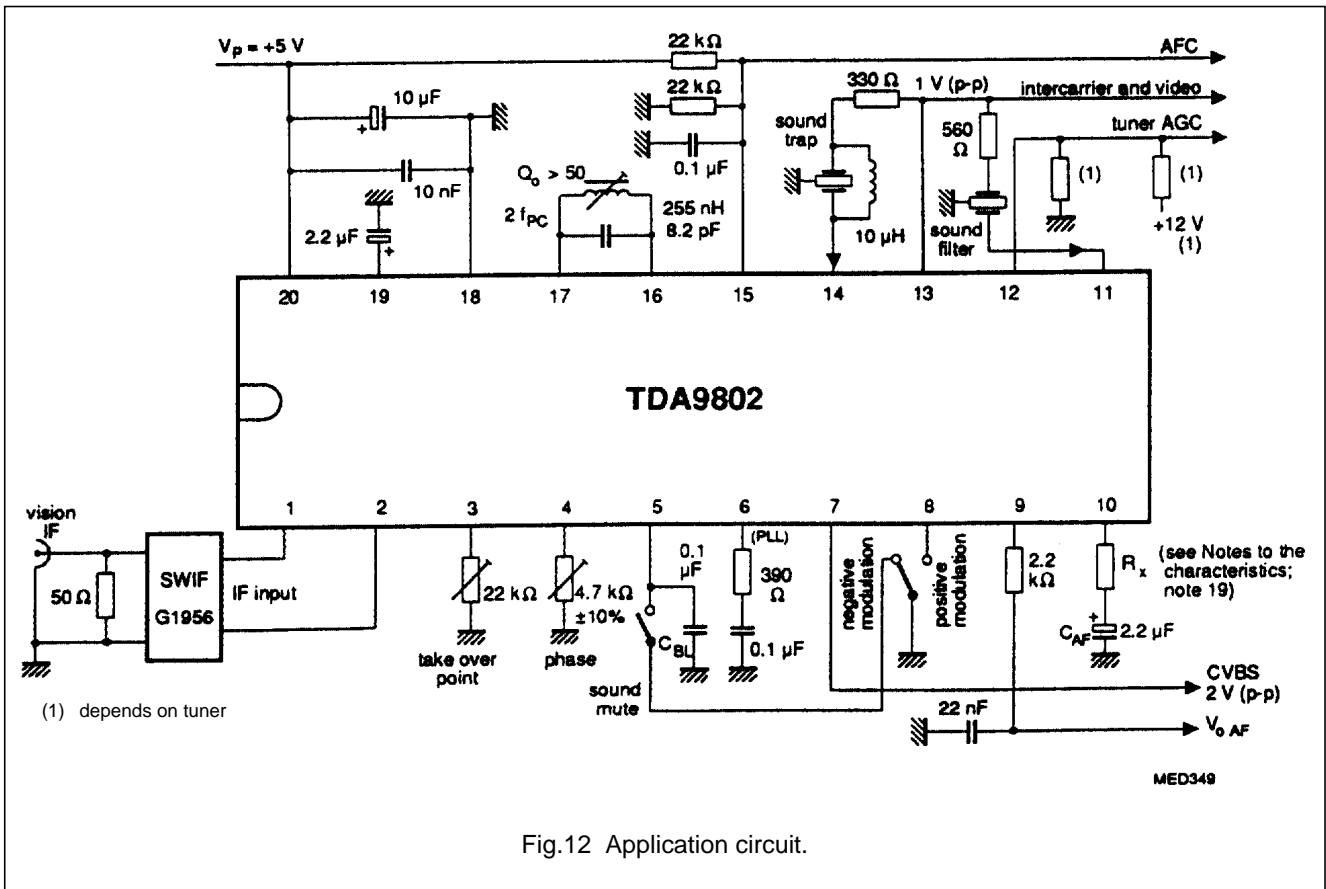

Fig.12 Application circuit.
- To allow higher frequency deviation, the resistor R_x on pin 10 (see Fig.12) has to be increased to a value which does not exceed the AF output signal of nominally 0.35 V for THD = 0.1% ($R_x = 4.7$ k Ω provides -6 dB amplification).